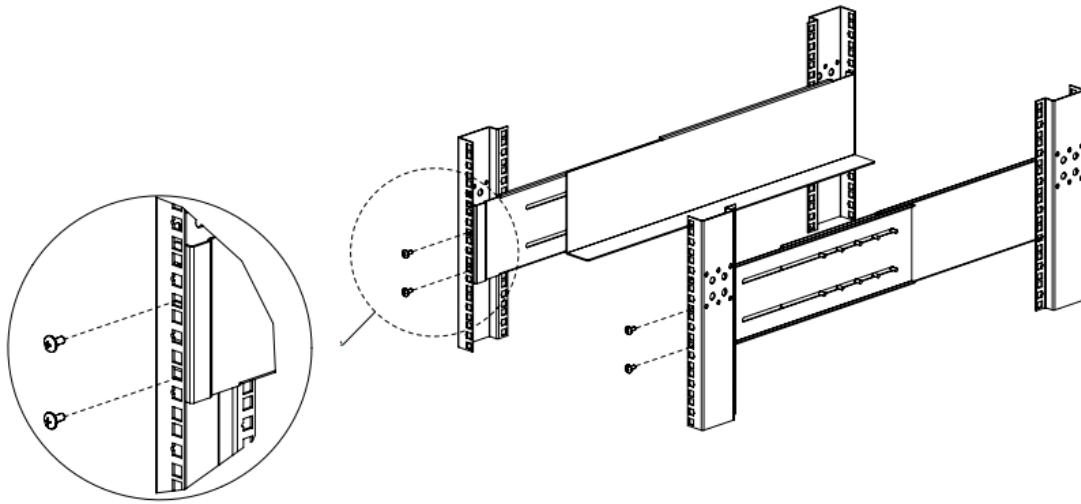

Figure 45: Install the Rear Side of Rails
43. Assemble the rear side of the rail kit with 2x Phillips Pan Head M5X12 screws (see Figure 45) on each rail.